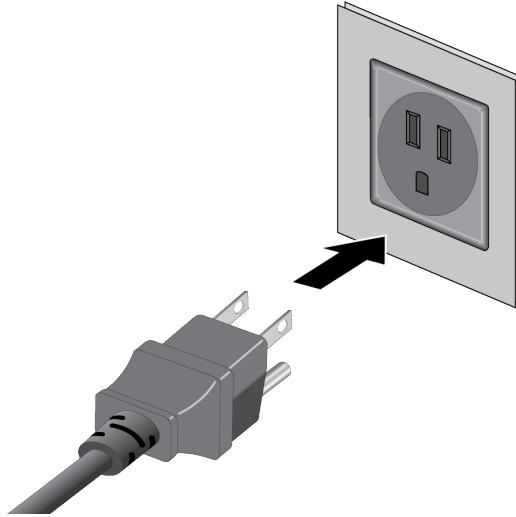

Figure 50. Plugging in the AC Power Cord to an AC Source
5. Connect the power cord to an appropriate AC power source. Refer to Figure 50 on page 124.